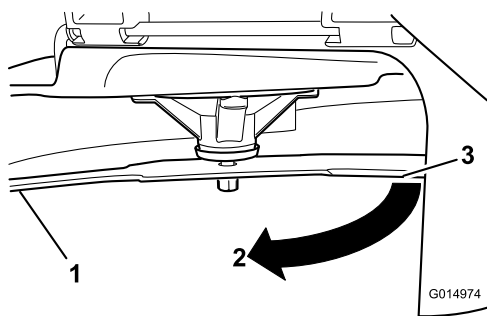

Figure 45
- Measured distance between blade and the surface (A)
- Rotate the same blade 180 degrees, so that the opposing cutting edge is now in the same position (Figure 45).